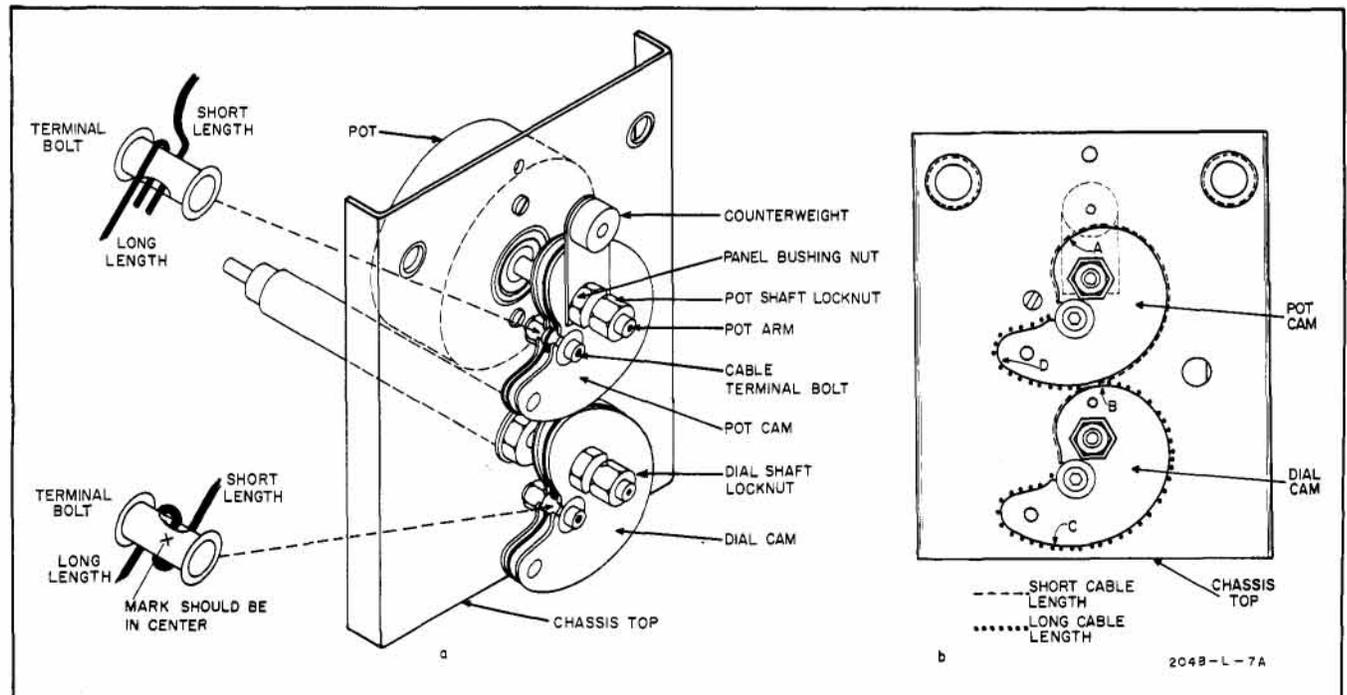

Figure 5-5. Cams and Cable Relationship
holding the power supply and circuit board, then swing the two assemblies to the side. Use figure 5-5 as a guide, and proceed as follows:
5-35. To replace the frequency potentiometer (pot), R10A and B, it is necessary to remove the pot cam. For easier access to the cams, remove the screws holding the power supply and circuit board, then swing the two assemblies to the side. Use figure 5-5 as a guide, and proceed as follows:
- a. Position cams as shown in figure 5-5a. Some instruments have aluminum cams which have the counterweight shown in figure 5-5. Other instruments
- i. Install counterweight and tighten panel bushing nut. Counterweight is keyed and should be positioned as shown in figure 5-5. (omit if no counterweight).